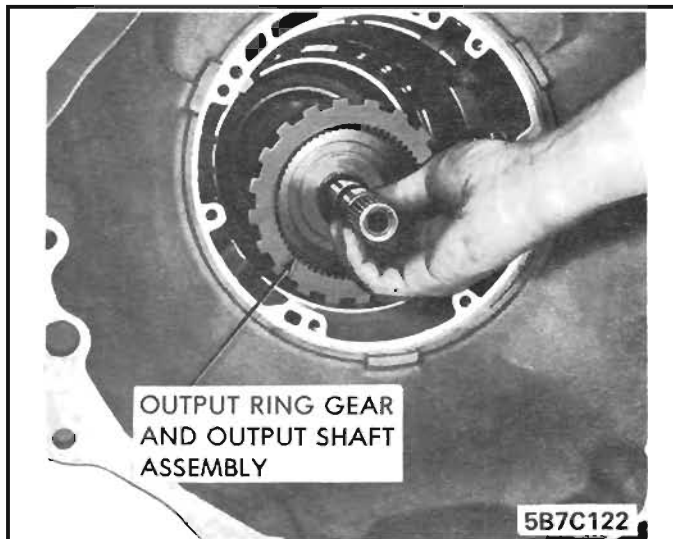

Figure 39 Output Ring Gear and Shaft Removal
1. Remove output ring gear and shaft assembly from case. See Figure 39.